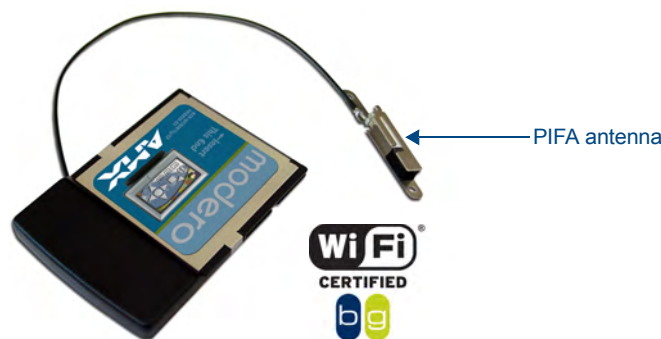

FIG. 9 NXA-WC80211GCF 802.11g wireless card
2. Use an alcohol pad (included) to clean both the rear housing's inner surface (bottom right corner) and the underside of the terminal antenna's metal plate (FIG. 9). These surfaces must be properly cleaned to provide good adhesion for the later installation of the antenna.